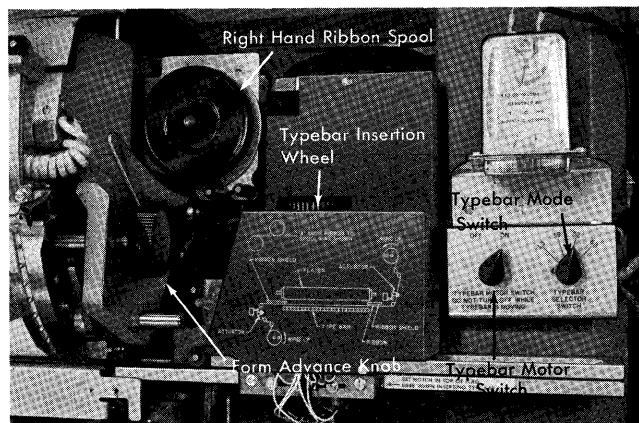

Figure 5. IBM 1443 Printer Right-Hand Controls
If the ribbon needs replacement, it should be installed according to the diagram (Figure 5) attached to the
1. Turn the typebar switch off. This switch is located next to the typebar mode switch at the right of the carriage (Figure 5).
2. Turn the typebar insertion wheel (Figure 5), which is also located on the right side of the base between the carriage and the typebar switch, to the right until the typebar stops moving. When the typebar has reached its limit of travel to the right, it is disengaged with the typebar insertion wheel. The